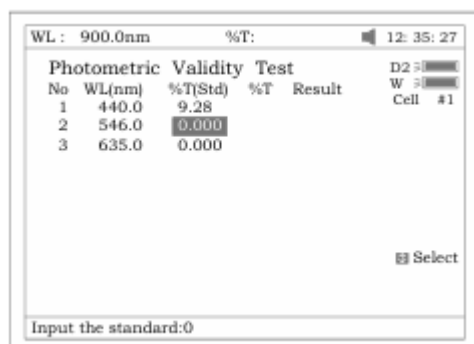

Fig.91
2. Press **【F1】** to set the standard value, Press **【ENTER】** to edit and input by pressing the numeric keypad (Fig 91). **【ESC/STOP】** to finish inputting and exit.